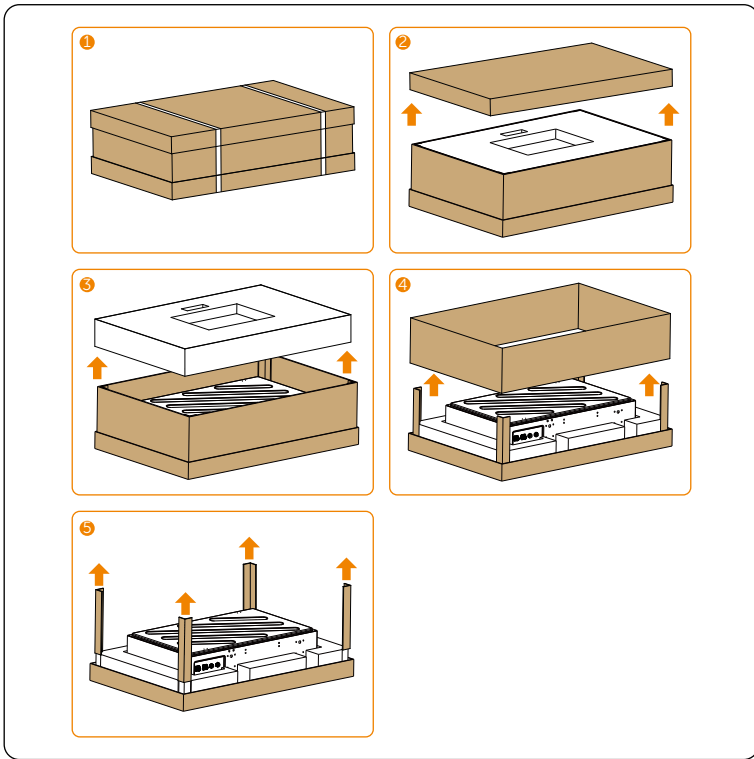

Figure 5-1 Unpacking
- Unpack the battery pack according to the following steps, see "Figure 5-1 Unpacking".